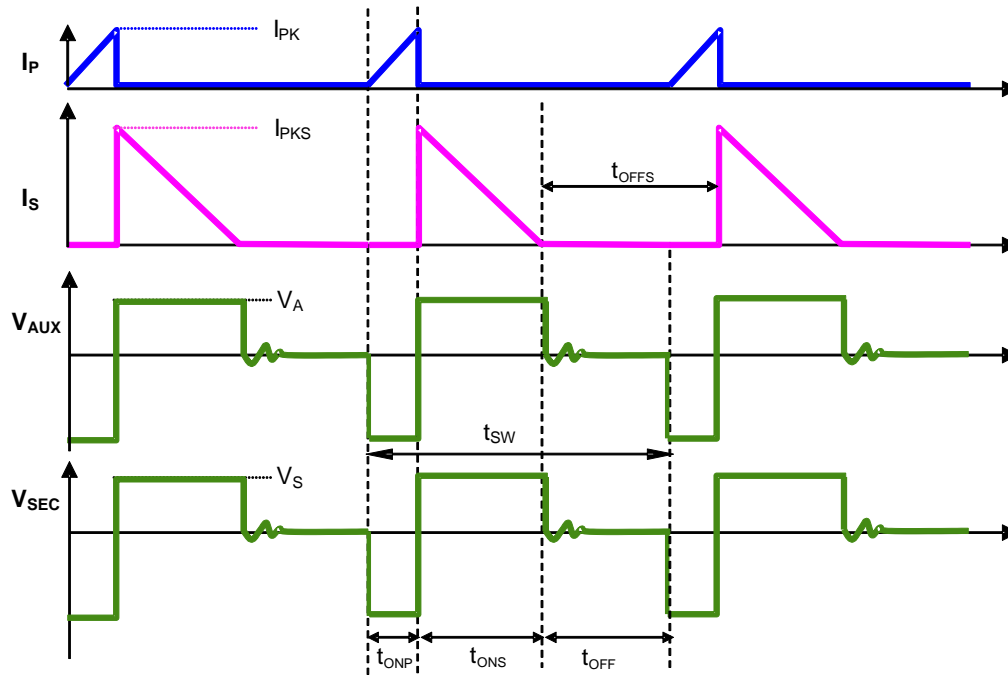

Figure 2. The Operation Waveform of Flyback PSR System
Figure 2 shows the typical waveforms which demonstrate the basic operating principle of AP3790 application. And the parameters are defined as following.
As illustrated in Figure 2, when the current  $i_p(t)$  rises up to  $I_{PK}$ , the switch Q1 turns off. The constant peak current is given by:
The AP3790 can work in constant-current (CC) mode. Figure 2 shows the secondary current waveforms.